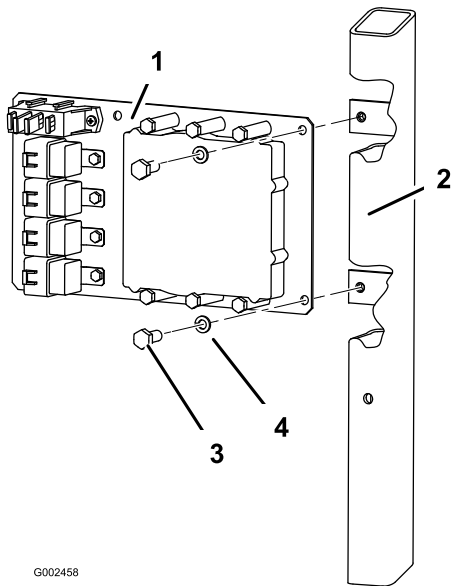

Figure 10
- For the Multi Pro 5600 and 5700 install the mount plate using 2 bolts (5/16 x 3/4 inch) and 2 lock washers (5/16 inch) as shown in Figure 10.